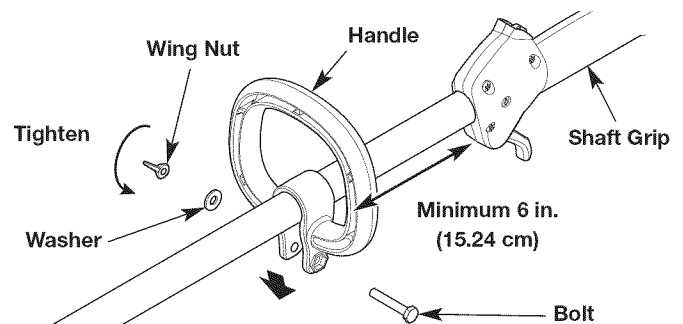

Fig. 3
1. Push the handle down onto the shaft housing (Fig. 3). The hex bolt hole in the handle should be to the left.
2. Insert the bolt into the hex bolt hole and push it through (Fig. 3). Place the washer onto the bolt. Screw the wing nut onto the bolt, but do not tighten the wing nut completely.
3. While holding the unit in the operating position (Fig. 7), move the handle to the location that provides the best grip. Place it a minimum of 6 inches (15.24 cm) from the end of the shaft grip (Fig. 3).
1. Loosen the wing nut (Fig. 3).
2. While holding the unit in the operating position, move the handle to the location that provides the best grip. Place it a minimum of 6 inches (15.24 cm) from the end of the shaft grip (Fig. 3).